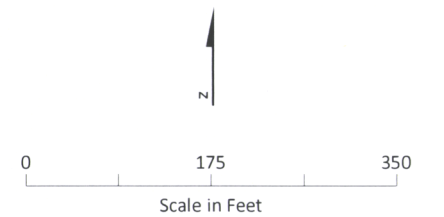

Figure 1. Proposed Biosparging System Expansion Layout
- Install 5 vertical sparging wells (VAS-47 through VAS-51) to extend the remedial zone of influence of the Cupboard Creek Protection Zone sparging curtain to the northwest across Lewis Drive beyond monitoring well MW-17 as shown on **Figure 1**. A well spacing of 30 feet will be used due to the relatively limited saturated thickness; each sparging well will be installed to the maximum depth possible at each location (top of bedrock surface). Depths are expected to range from approximately 13 to 30 feet bgs based on previous well installations in this area. The sparge wells will be constructed in accordance with South Carolina Well Standards R.61-71.
- Install 8 vertical sparging wells (VAS-51 through VAS-59) to extend the remedial zone of influence of the Brown's Creek Protection Zone sparging curtain southwest toward monitoring well MW-11 as shown on **Figure 1**. A well spacing of 40 feet will be used due to the greater available saturated thickness in this area than near Cupboard Creek. Each sparging well will be installed to the maximum depth possible at each location. Depths are expected to range from approximately 15 to 75 feet bgs based on previous well installations in this area. The sparge wells will be constructed in accordance with South Carolina Well Standards R.61-71. Once completed, the locations and elevations of these monitoring wells will be determined by a surveyor licensed in the state of South Carolina.
- Figure 1 - Proposed Sparge Well Locations